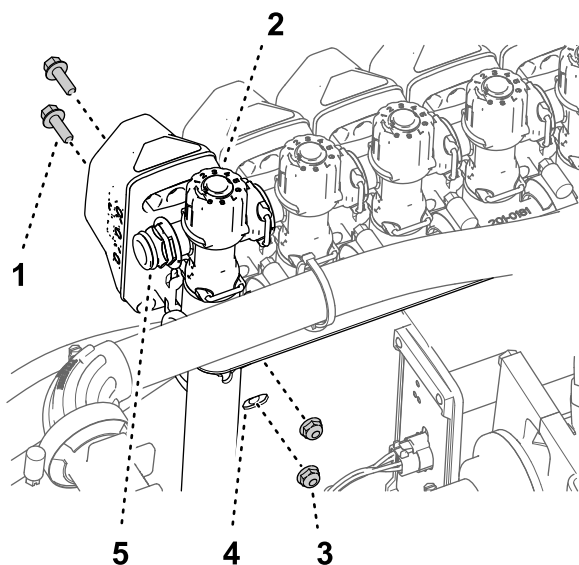
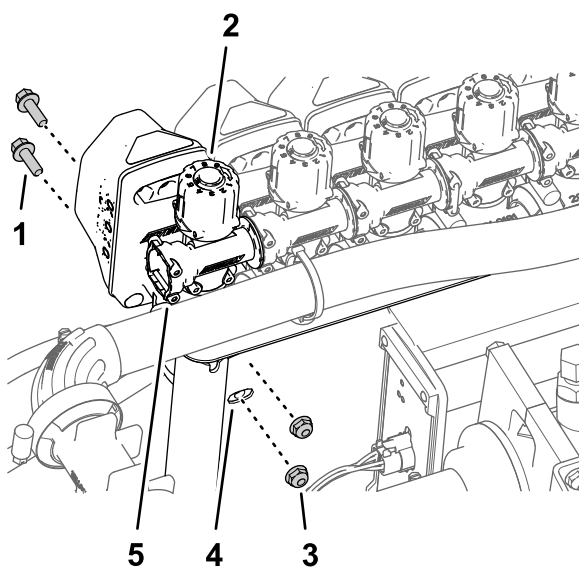

Figure 105
Figure 106
3. Assemble nozzle valve 10 to the valve mount (Figure 105 or Figure 106) with the 2 flange-head bolt (1/4 x 3/4 inch) and 2 locknut (1/4 inch) that you removed in step 2 of Removing the Section Valves from the Manifold Mount (page 30).